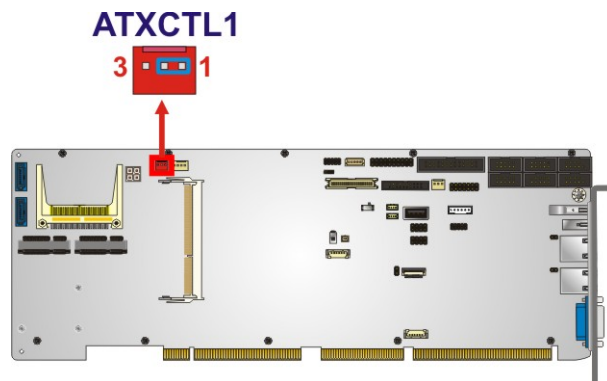

Figure 3-2: ATX Power Supply Enabled Connector Location
- CN Location:** See **Figure 3-2**